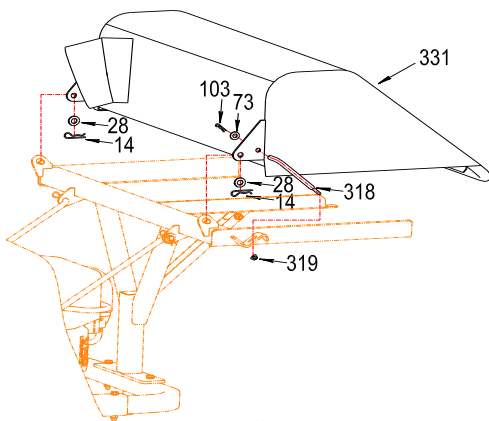

FIG 7
- Insert the top end of hood stop rod into the hole in catcher hood tab. Install Part No. 73 and 103 (washer and cotter pin). (FIG 7)